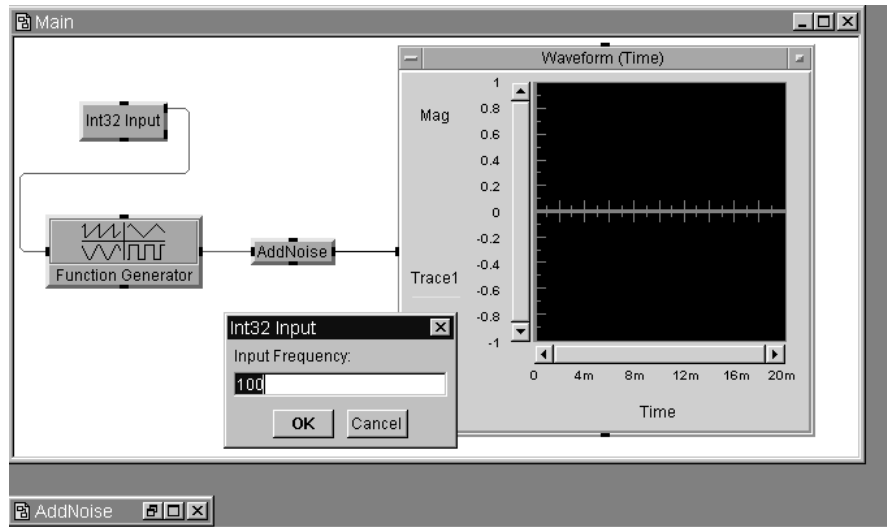

Figure 47 Runtime Pop-Up Input Box
- 5 Run the program. The input box for Int32 Input appears, with the instruction Enter Frequency:. Try running the program with different frequencies in the input box. See Figure 47, shown at run-time with the pop-up input box. Simply click and drag the pop-up box to control where it appears.